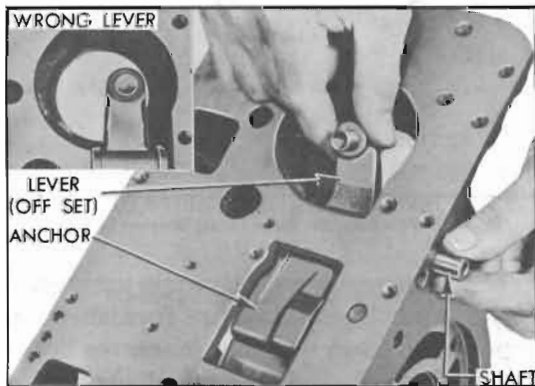

Figure 5-89—Installing Reverse Band Operating Lever and Shaft
4. Hold band operating lever (with offset end) in place with strut shoulder toward inside of case, and insert anchor shaft through case, anchor, and lever. *Tapped end of shaft must be outward.* If adjustment screw is not centered in servo opening, the low band operating lever has been installed by mistake. See figure 5-89.